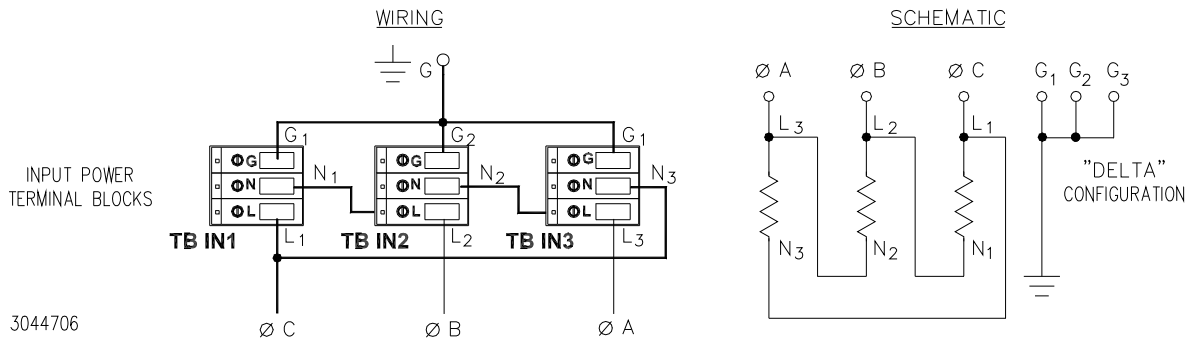

FIGURE 2-10. THREE PHASE DELTA A-C SOURCE POWER WIRING
- **Delta Power** - Connect a separate wire pair from each Lx/Nx pair on the rack adapter across successive line terminals of the source power (e.g., A-B, B-C, C-A) (see Figure 2-10).